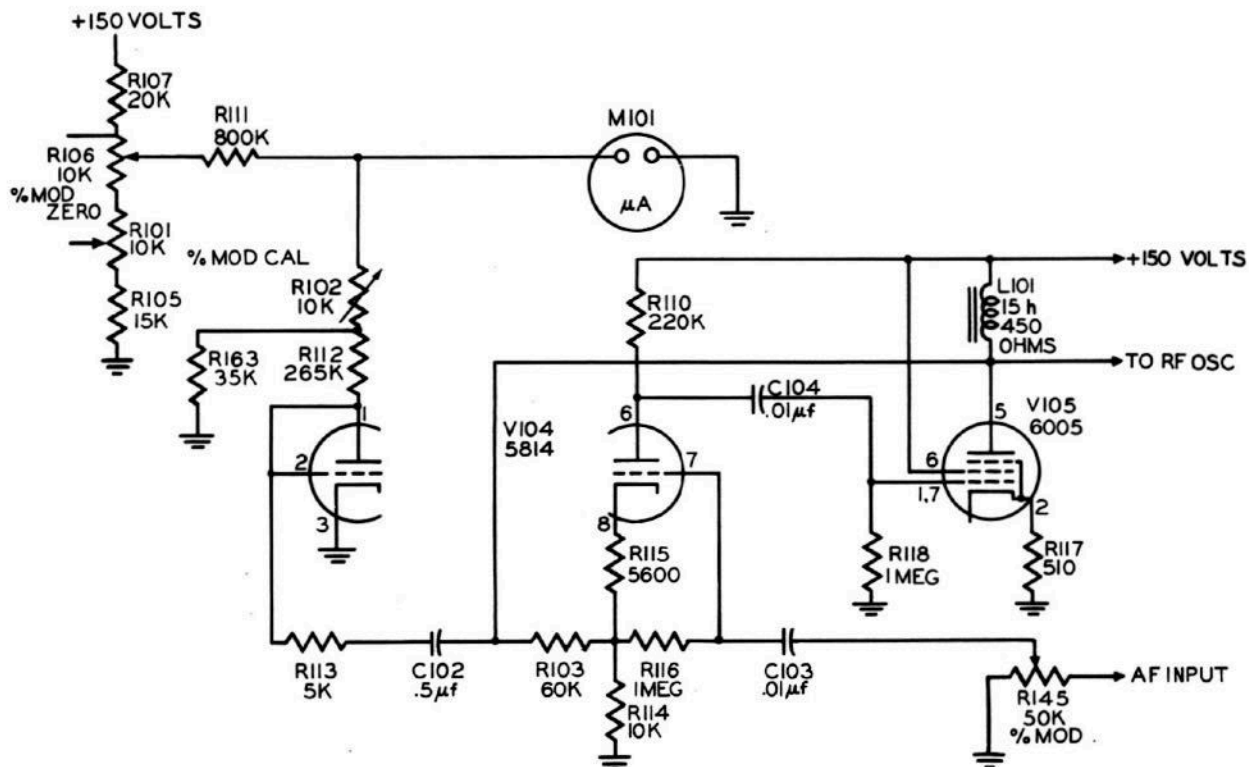

Figure 2-9. Signal Generator SG-45A/URM-26, Functional Schematic Diagram, Modulator and Modulation Monitor
a. MODULATOR: The modulator circuit is a two-stage amplifier consisting of one triode of tube V-104 and tube V-105. A functional schematic diagram is shown in figure 2-9. Audio signal from either the internal oscillator or an external source is applied to grid #7 of tube V-104. The amplified signal developed across reactor L-101 is superimposed on the dc plate potential of the oscillator tube V-110 thereby varying the carrier amplitude at an audio rate.
(1) On positive halves of the audio frequency cycle, capacitor C-102 charges through resistor R-113 and 1/2 of V-104. On negative half cycles, capacitor